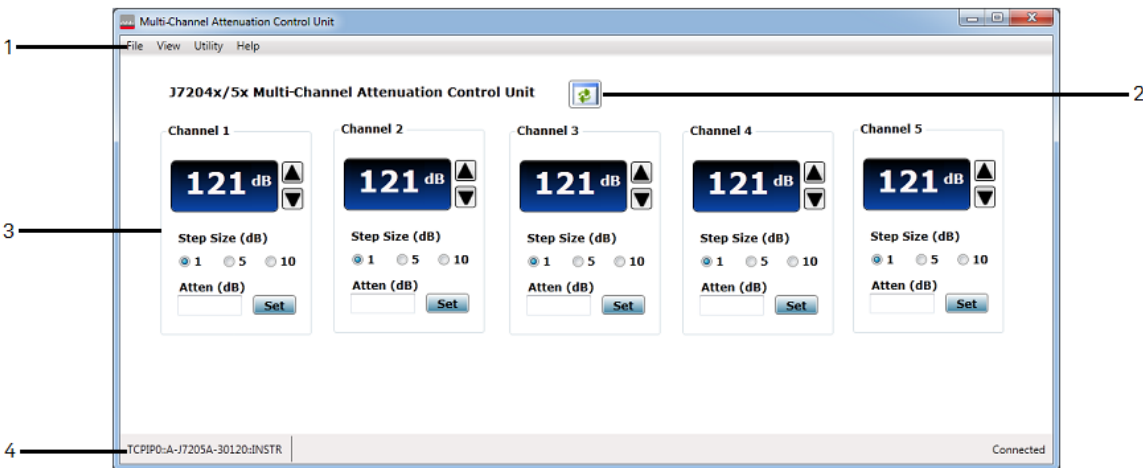

Figure 4-4 J7205x main SFP interface
- 4 The main SFP interface for J7205x is shown in Figure 4-4 and described in Table 4-1.